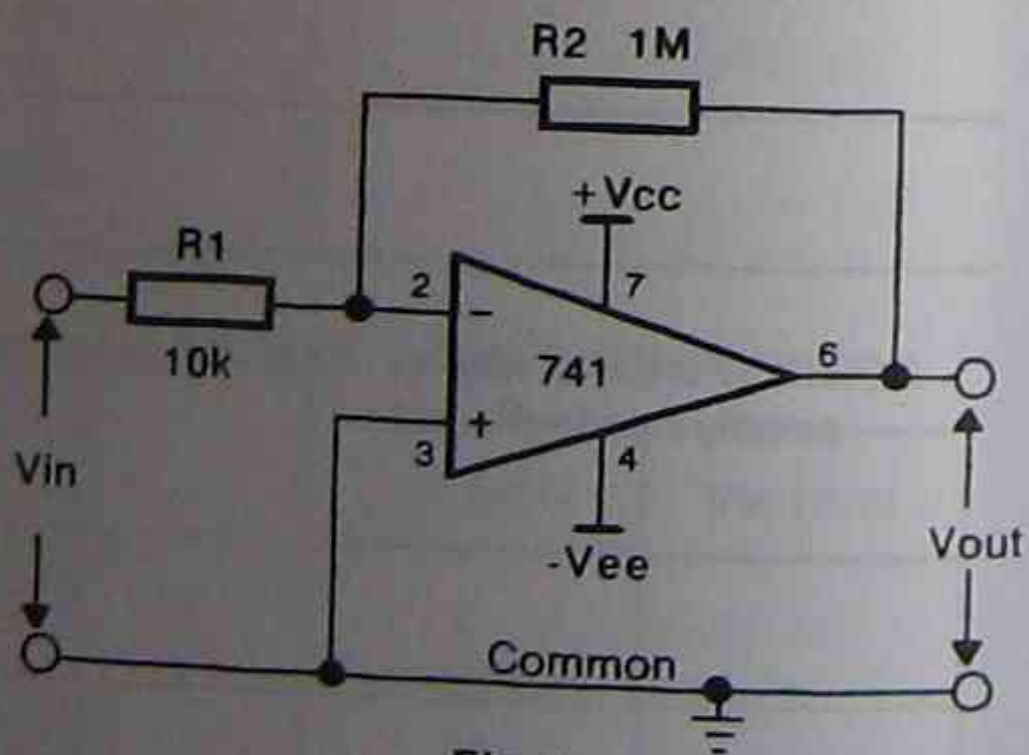

Fig.1
- For Fig.1, calculate the theoretical gain of the circuit.
- Construct the circuit of Fig.1 on a prototyping board. The circuit is powered with a dual polarity power supply, either $\pm 12V$ or $\pm 15V$.